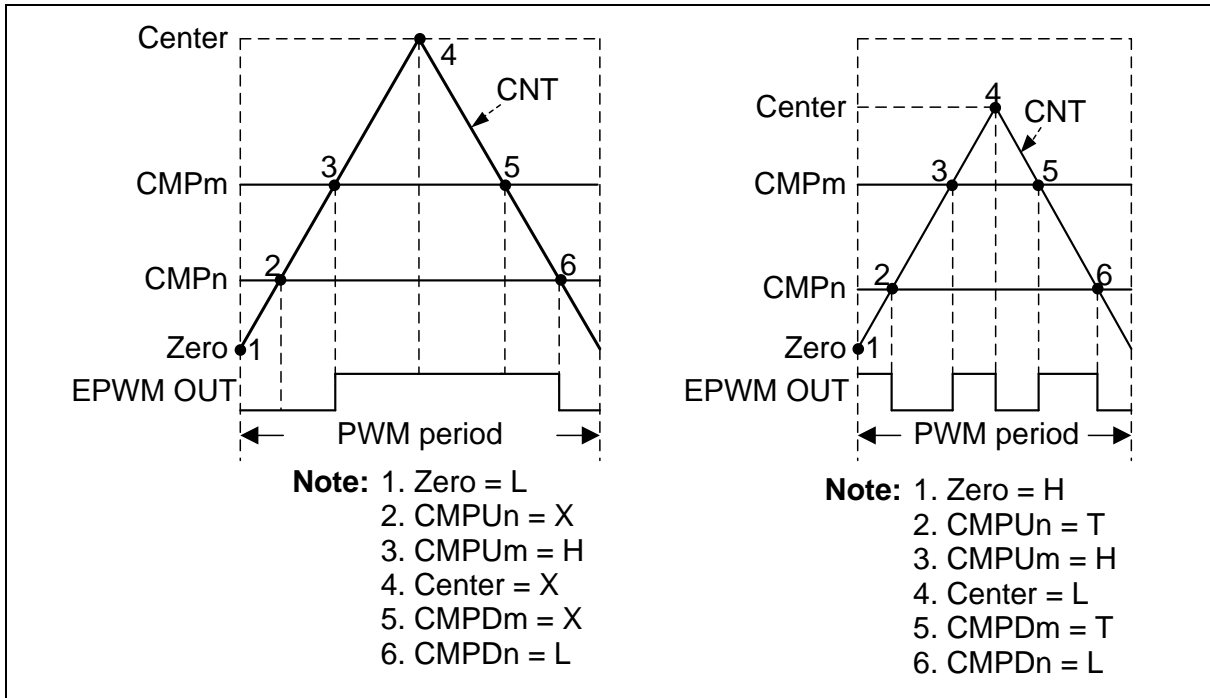

Figure 6.15-18 EPWM Pulse Generation
Each event point can decide EPWM waveform to do nothing (X), set Low (L), set High (H) or toggle (T) by setting the EPWM_WGCTL0 and EPWM_WGCTL1 registers. Using these points can easily generate asymmetric EPWM pulse or variant waveform as shown in Figure 6.15-18. In the figure, EPWM is in complementary mode, there are two comparators n and m to generate EPWM pulse. n denotes even channel number 0, 2, or 4, and m denotes odd channel number 1, 3, or 5. n channel and m channel are complementary paired. Complementary mode uses two channels (CH0 and CH1, CH2 and CH3, or CH4 and CH5) as a pair of EPWM outputs to generate complement paired waveforms. CMPU denotes CNT(EPWM_CNTn[15:0]) is equal to CMP(EPWM_CMPDATn[15:0]) when counting up. CMPD denotes CNT bits is equal to CMP bits when counting down.